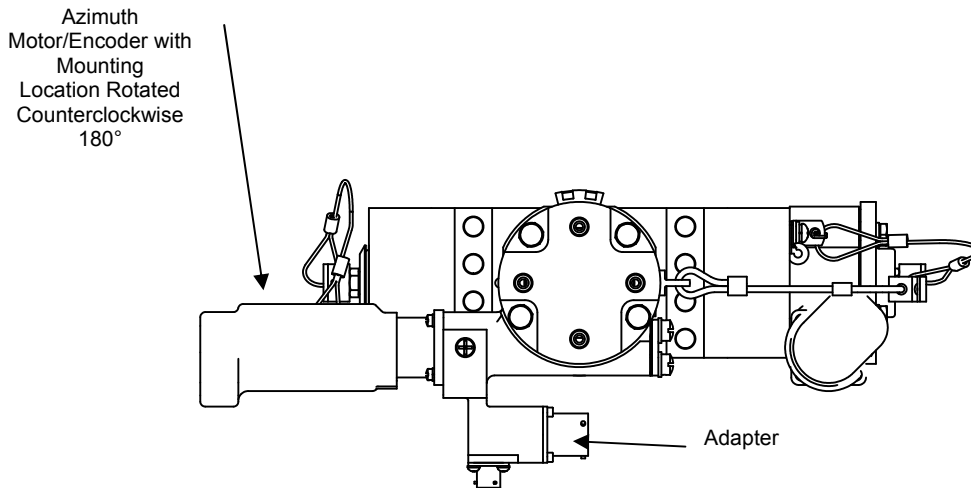

Figure 11. Top View of SX-5 Starburst Gimbal Assembly with Mounting Location of Azimuth Motor/Encoder Rotated 180° to Other Side of Gimbal
- (2) Rotate the mounting location of the azimuth motor/encoder 180° to the other side of the Gimbal as shown in Figures 11 and 12.